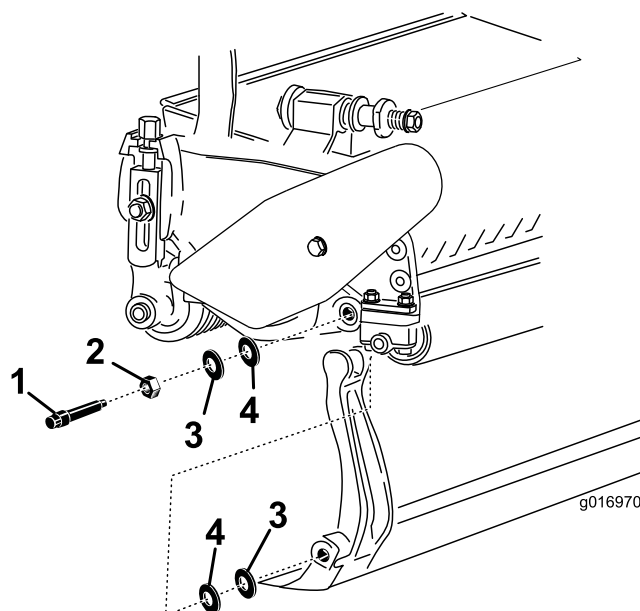

Figure 24
Account for the 2 nylon and 2 stamped steel washers on each end of the bedbar (Figure 24).
3. Position a nylon washer on each side of the side plate boss. Place a steel washer outside each of the nylon washers (Figure 24).